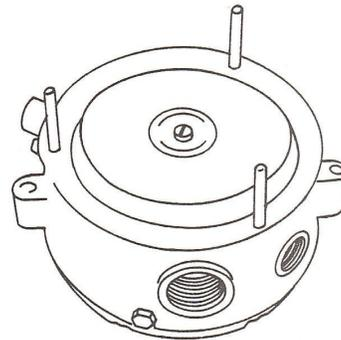

Figure 47. Aligning Pins
(1) Place small Diaphragm Plate on Screw with flange on plate toward screw head. Locate Diaphragm on screw with concave or dished side away from screw head. Set large Diaphragm Plate on screw with flange away from diaphragm and screw Diaphragm Button on exposed threads. Tighten securely.
(2) Insert aligning pins in Front Cover screw holes, using every other hole. Slide Gasket over pins with gasket ears over primary cover screws, slide on support plate. Mount secondary diaphragm assembly on pins with button toward converter lever. (Figure 47)